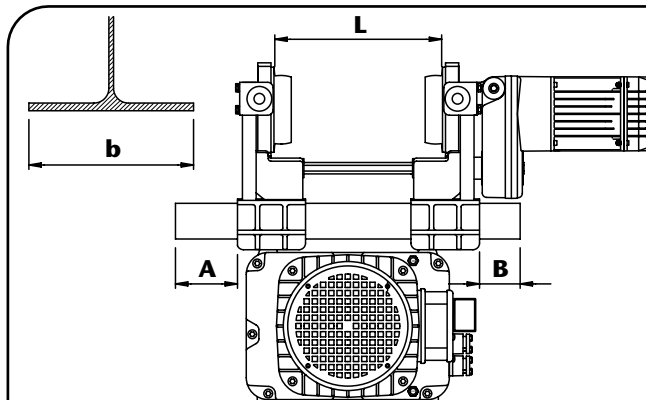

fig. 31
Before proceeding to the installation at a height, check the setting of the internal space (L) of the trolley wheels according to the width (b) of the sliding girder wing as for the heights shown in the table (fig. 31).